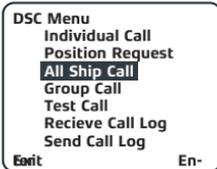

Figure 21
2. Rotate the multi-function knob to select **All Ship Call** and press **Enter** (fig 21).